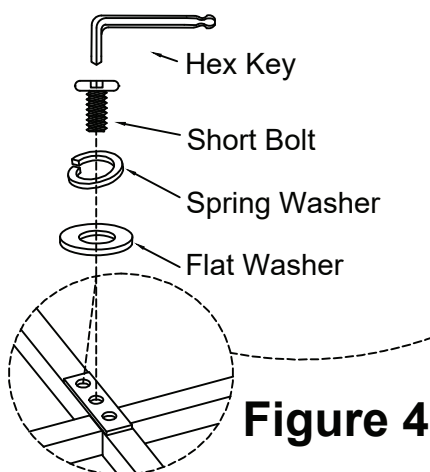

Figure 4
Assemble Short Left Leg Frame (D) to the Leg Frame (C) & (E) with the Short Bolt, Spring Washer, and Flat Washer. Tighten with the Hex Key. (See Figure 4)